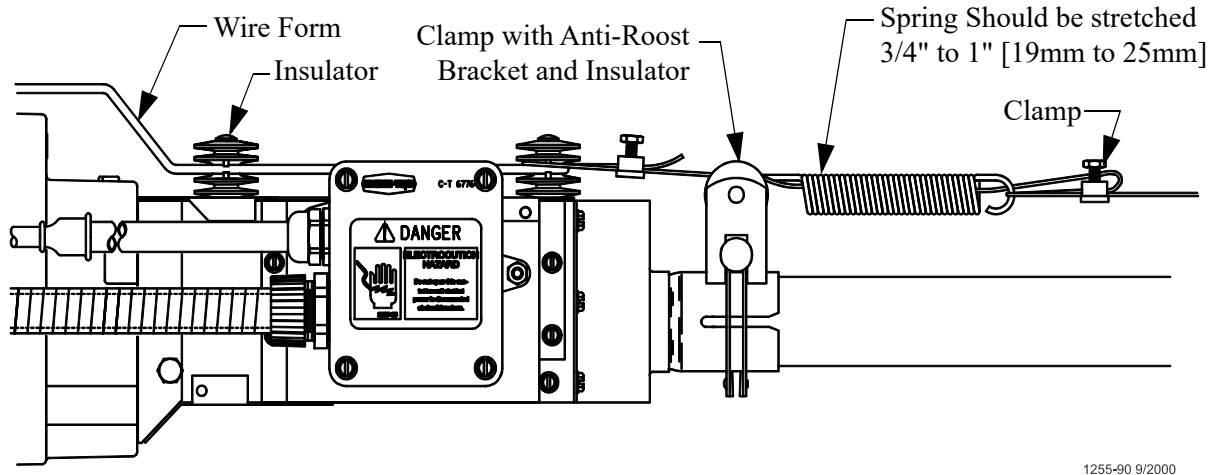

Figure 49. Anti-Roost Installation at the Control Unit
9. At the control unit, after clamping the cable to the spring, cut the cable about 8" to 10" [200 to 250 mm] longer than necessary. Feed the end of the cable through the center of the spring, around the first insulator on the control unit, and clamp the cable using the cable clamp supplied with the control unit. See **Figure 49**.
10. Install the wire form on the control unit insulators. Be sure the guard snaps into the retainers molded into the insulators. See **Figure 49**.